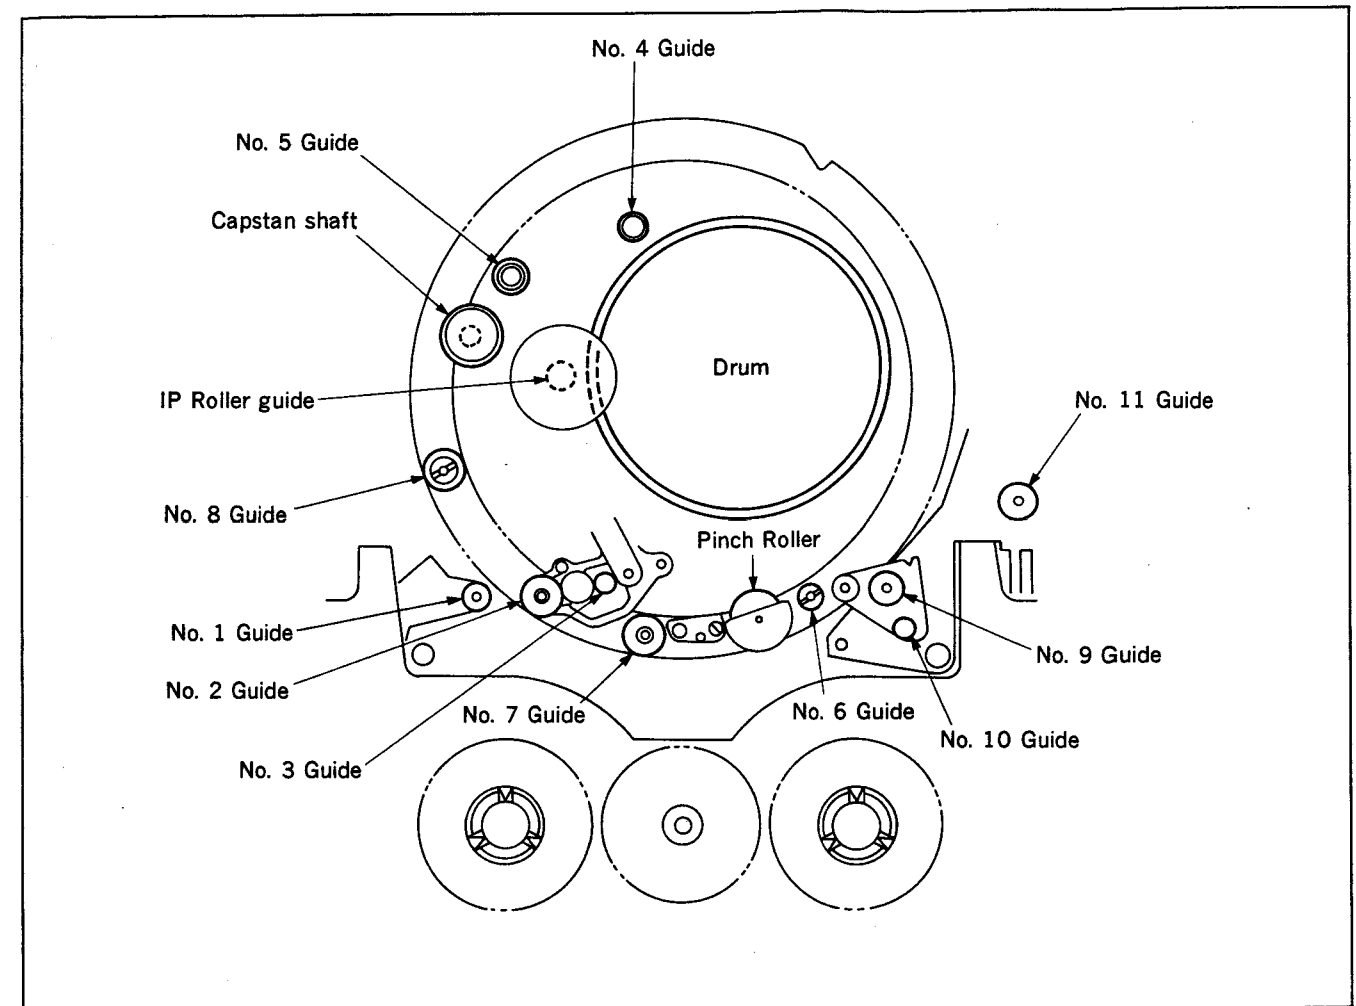

Fig. 3-1-1 Tape Path (Unthreading-end position)
(2) Cleaning Tape Running System (Fig. 3-1-1)
(3) Cleaning Drive System
| Tape Path | Tape Path surface | | ○ | ○ | ○ | ○ | ○ | ○ | ○ | ○ | ○ | ○ | Refer to Fig. 3-1-1 |